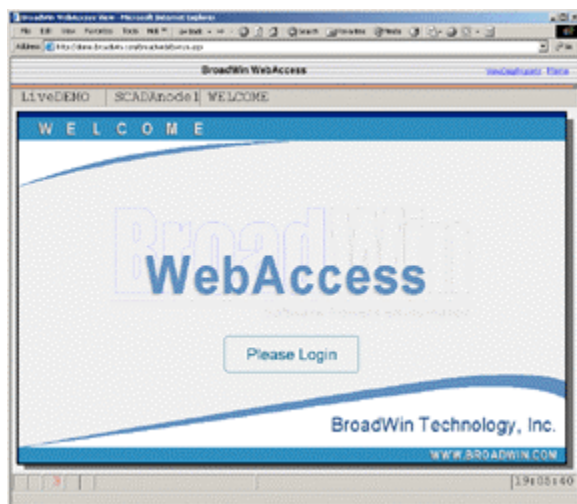

Figure 7.6 VIEW Login
The WebAccess **View Login Page** appears (Figure 7.6).
3. Click on "**Please Login**" (Figure 7.6).